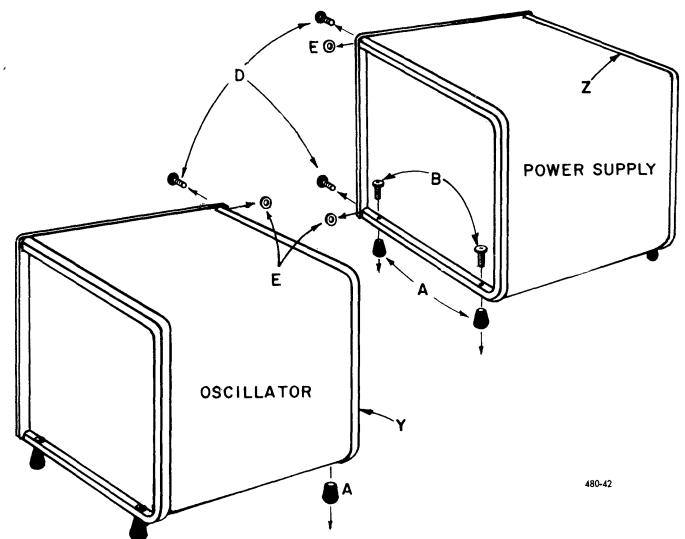
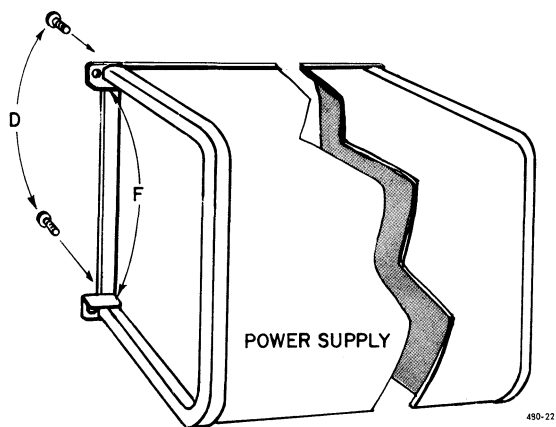
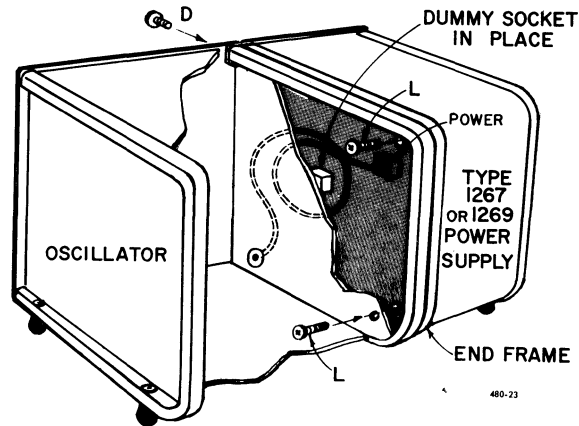

Figure 2-1. Preparation for bench mounting hardware.
Figure 2-2. Installation of clip in place of washers.
Figure 2-3. Installation of oscillator with Type 1267 or 1269 Power Supply.
- b. Release the two end-frame attaching screws (D) at the left-hand edge (as seen from the front of the oscillator and the power supply (Figure 2-1)).
- c. Withdraw the screws and remove the spacers (E) between the panels and the end frame.
h. Replace and tighten screws (D) and spacers (E) at the left-hand edge of the power supply.
j. Remove both rubber feet (A) at the right-hand side of the power supply and the left-hand side of the oscillator so that the feet will not interfere with one another (see Figure 2-1). Retain screws (B).
k. Release the two end-frame attaching screws (D) at the right-hand edge of the power supply.
l. Withdraw the screws and remove the spacers (E) between the panel and the end frame.
m. Install one clip (F) in place of each spacer on the power supply, with the plain surface of the clip against the inner surface of the end frame. Align one hole in each clip with the appropriate panel hole (Figure 2-2).
n. Reinstall the panel screws (D) through the clips, into the end frames.
p. Attach the 5-pin plug from the oscillator to the POWER jack on the supply. Figures 2-3 and 2-4 show the oscillator/power supply combination as finally assembled.
s. Reinstall the front-panel screws (D) in the oscillator, through the slips, into the end frame.
t. Pass the 10-32 screws (L) (supplied) through the rear clearance holes (top and bottom) on the oscillator left-side panel (Figures 2-3 and 2-4).